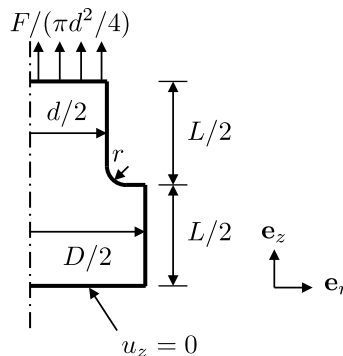

Figure 4: Schematic of a stepped shaft under tension.
Since the geometry and loads are symmetric about the center axis of the shaft, this configuration is an example of an axisymmetric problem, opening the door for two-dimensional modeling. We use the axisymmetric representation of the problem shown in Fig. 4 as the basis of our finite element model.
- Sketch the part as pictured in Fig. 4 and click Done. (Use the Create Fillet tool when sketching the part.)